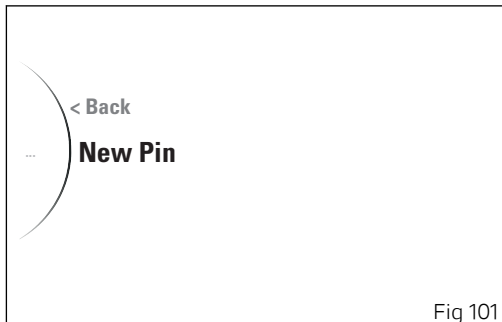

Fig 101
- Select the "New Pin" option (Fig 101) and press ENTER button.